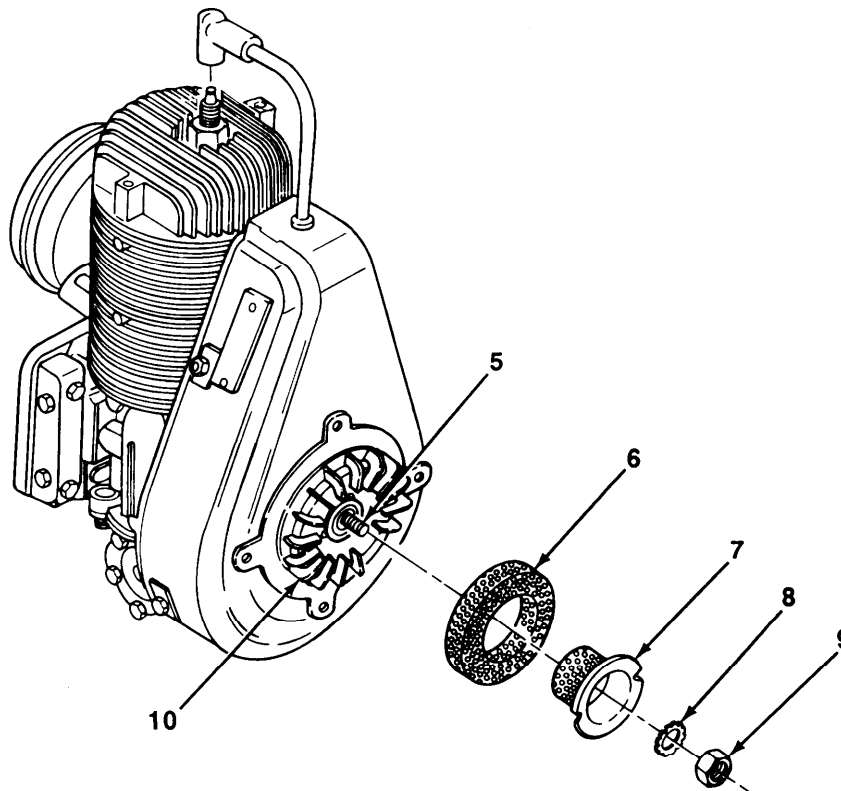

Figure 6-2. Ermine Starter Screen Replacement.
**Refer to Figure 6-2, Engine Starter Screen Replacement, for steps c and d.**
- c. Remove nut (9) and lockwasher (8) from engine crankshaft (5). Discard lockwasher.
- d. Remove starter cup (7) and starter screen (6) from fly-wheel (10).
**Refer to Figure 6-2, Engine Starter Screen Replacement, for steps a and b.**
a. Position starter screen (6) and starter cup (7) on fly-wheel (10).
b. Install new lockwasher (8) and nut (9) on engine crankshaft (5).